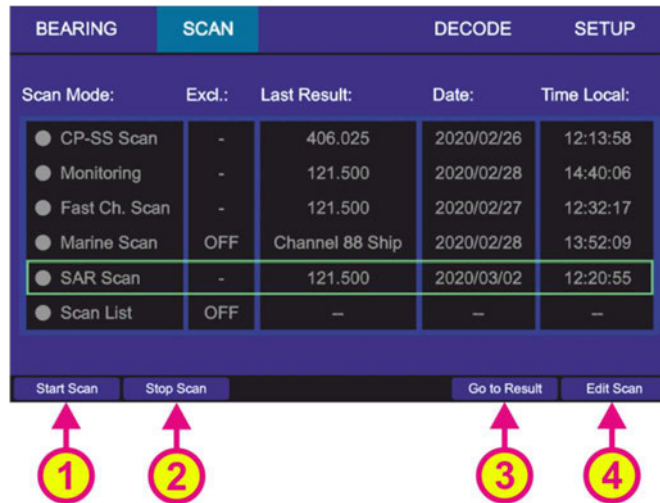
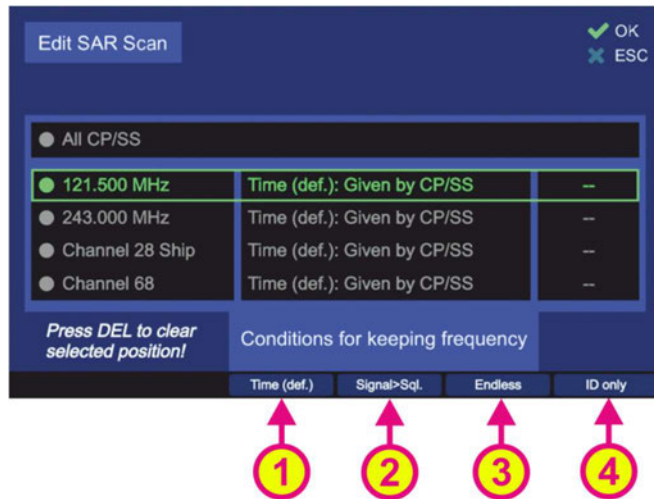

Figure 55. Selecting SAR scan
Figure 57. SAR scan. Edit scan settings.
- To start the “SAR scan” mode select the corresponding line on the “Scan” page and press “OK” or the hotkey “Start Scan” (s. Figure 55, position 1).
- Pressing the hotkey “Stop Scan” (s. Figure 55, position 2) will terminate the current scan mode and change to the bearing of the frequency, that was set before the scan mode has been activated.
- Pressing the hotkey “Go to Result” (s. Figure 55, position 3) during the scan mode is currently running, will terminate the scan mode, adopt the frequency which was found in this scan last time and change to the “Bearing” page. Pressing the hotkey “Go to Result” if the scan mode is not activated, will lead to the “Bearing” page adopting the last result as the bearing frequency. This hotkey appears only, if there is a result for this scan.
- Pressing the hotkey “Edit Scan” (s. Figure 55, position 4) opens the dialog for changing the SAR scan settings (s. Figure 57).
The hotkey “Edit Freq.” opens the input dialog that allows the modification of the currently marked frequency (s. Figure 38 and its description in 7.2.2.4). This hotkey only appears for the frequencies that are configurable (the last two displayed frequencies: Channel 28 Ship and Channel 68, s. Figure 57).
- Pressing the hotkey „Time (def)“ (s. Figure 57, position 1) will set the hold time (duration of staying in the scanning on this particular frequency) to the value that is given by the CP-SS setting (30/N or 45/N), s. 7.2.5.1.
- The hotkey “Signal>Sql.” defines the behavior of the scan algorithm to “signal level > squelch level” (s. Figure 57, position 2).
- The hotkey “Endless” (s. Figure 57, position 3) defines the behavior of the scan algorithm when an active frequency has been found.
- Pressing the hotkey “ID only” (s. Figure 57, position 4) activates or deactivates the feature “ID Only” (s. 7.2.2.3):